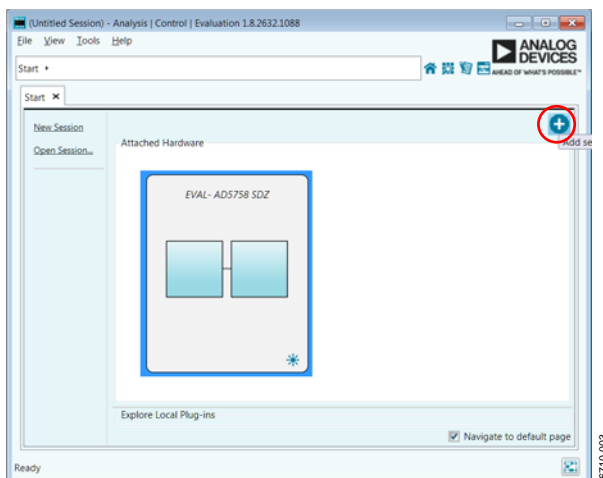
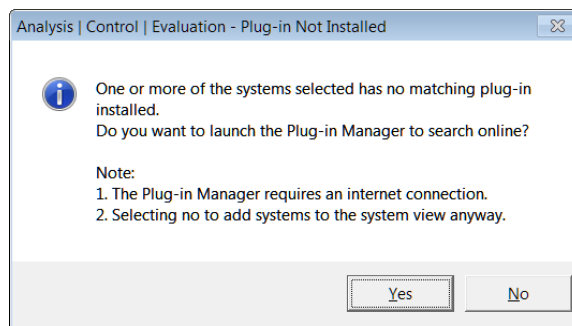
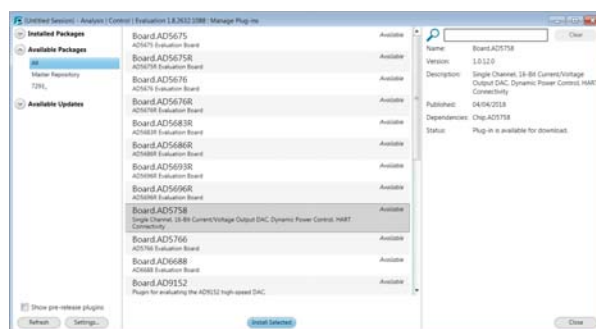
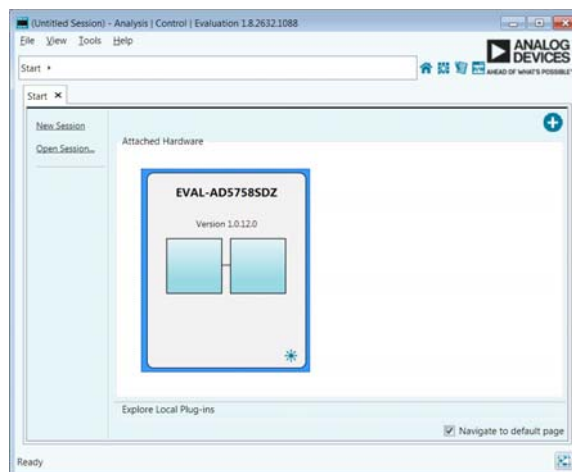

Figure 3. EVAL-AD5758SDZ Plug-In Not Installed
Figure 4. Installing Plug-In Pop-Up Window
Figure 5. Plug-In Manager Window
Figure 6. Attached Hardware Pane with EVAL-AD5758SDZ Connection
5. When setting up the evaluation board for the first time, the EVAL-AD5758SDZ plug-in may need to be installed. If the plug-in appears as shown in Figure 6, go to Step 7. If the plug-in appears as shown in Figure 3, click the button that is circled in red in Figure 3. After clicking this button, the pop-up window shown in Figure 4 appears. Click **Yes**.
6. A new window appears, as shown in Figure 5. Navigate to the **Board.AD5758** plug-in and click **Install Selected**. The EVAL-AD5758SDZ plug-in installs and is displays, as shown in Figure 6.